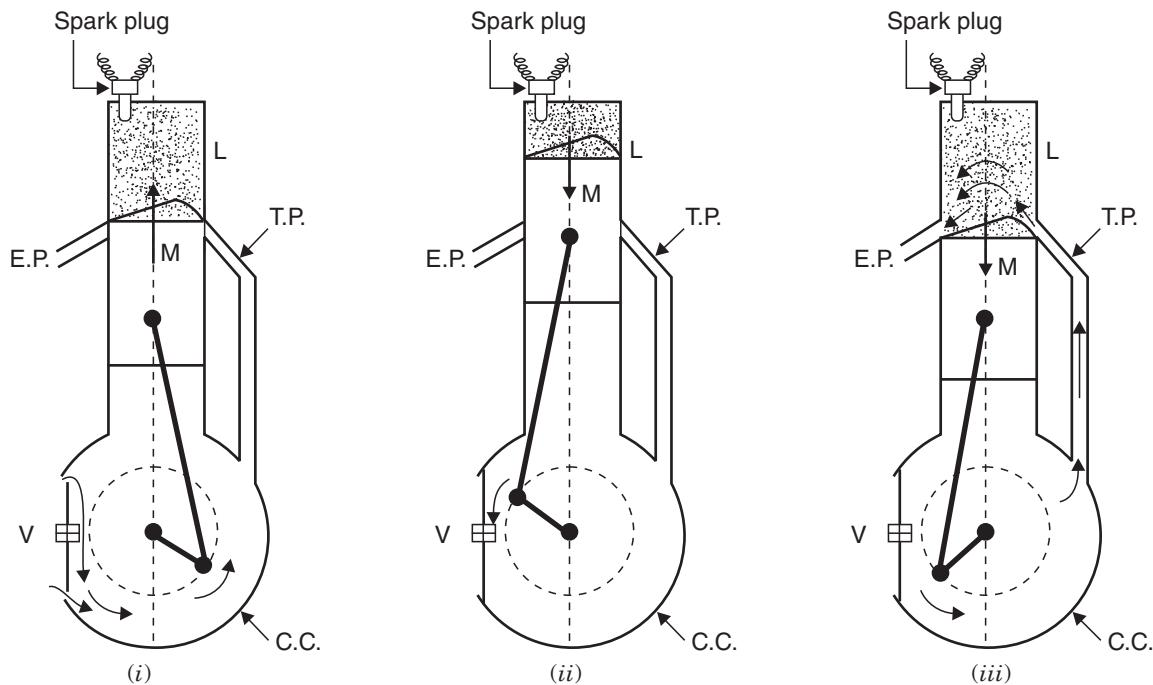

**Fig. 5.39.** Actual valve timing diagram (four stroke Diesel cycle engines).
**2. Diesel engines.** Fig. 5.39 shows the valve timing diagram of a *four stroke "Diesel cycle"* engines (theoretical valve timing diagram, is however the same as Fig. 5.37). Inlet valve opens 10° to 25° in advance of T.D.C. position and closes 25° to 50° after the B.D.C. position. Exhaust valve opens 30° to 50° in advance of B.D.C. position and closes 10° to 15° after the T.D.C. position. The fuel injection takes place 5° to 10° before T.D.C. position and continues up to 15° to 25° near T.D.C. position.